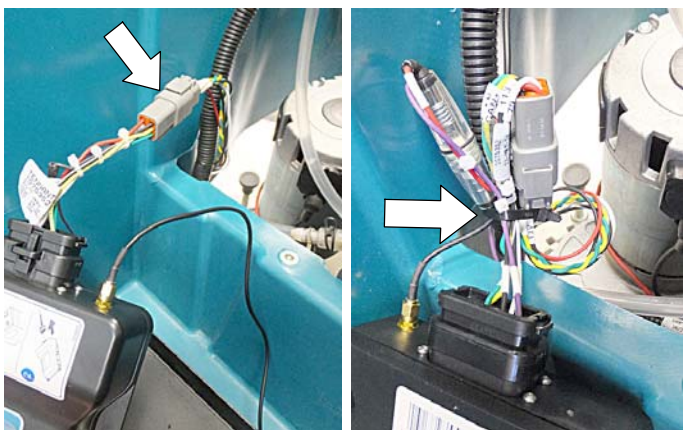

Fig. 14
10. Connect the telemetry harness to the factory installed telemetry connect as shown (Figure 14). Secure the telemetry harness and the antenna wire to the machine harness with cable-tie as shown.